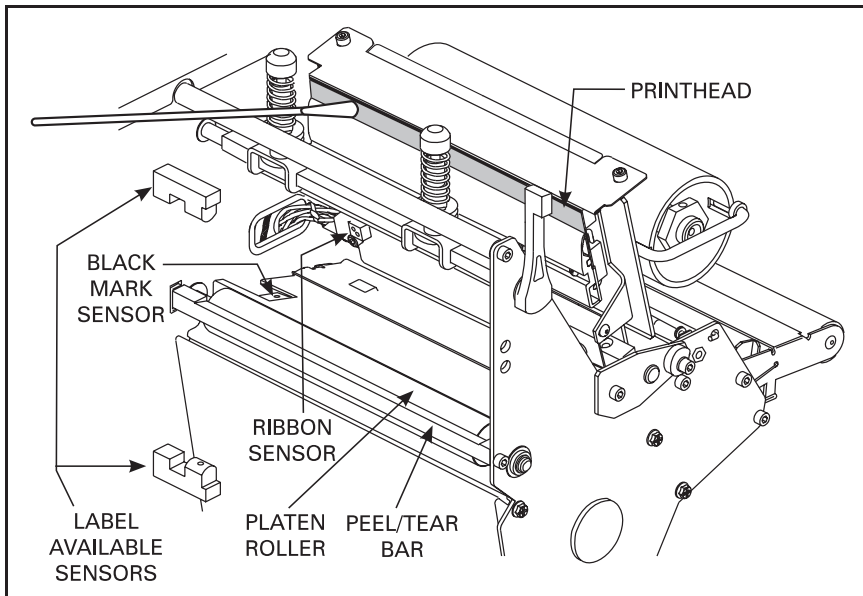

Figure 11. Cleaning Diagram
To clean the printhead, refer to Figure 11 and follow these steps:
2. Open the Printhead by moving the Printhead Open Lever to the open position (as shown in Figure 11).
The Media, Ribbon, and Label Available Sensors should be cleaned on a regular basis to ensure proper operation of the printer. To locate the position of these sensors, refer to Figure 11, Figure 4 on page 16, and Figure 5 on